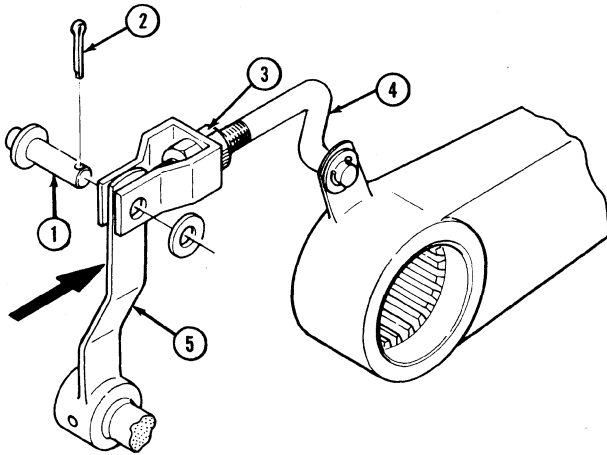

Figure 33
2. Adjusting the Position Control Linkage (Figure 33).
- (a) Loosen the rod locknuts (3).
- (b) Remove the pin (1) from the feedback link (5).